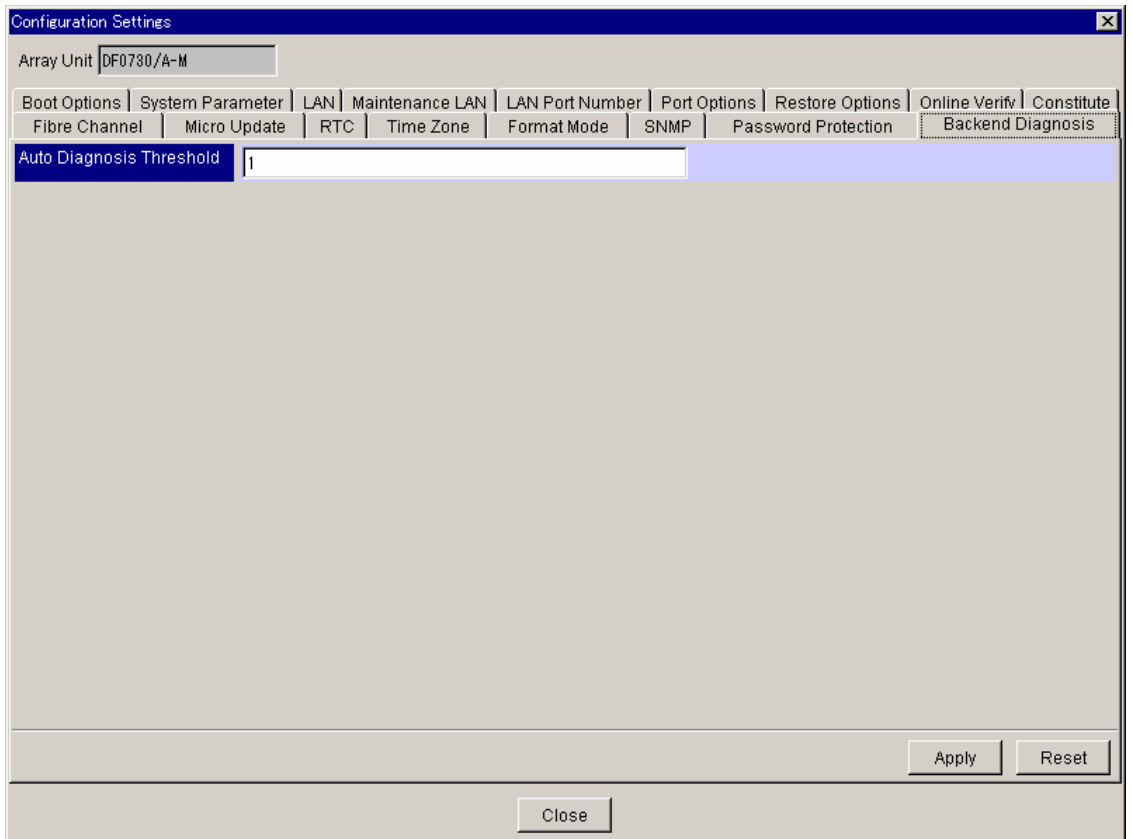

Figure 5.71 Setting Backend Diagnosis Information
3. Click the **Backend Diagnosis** tab (see Figure 5.71).